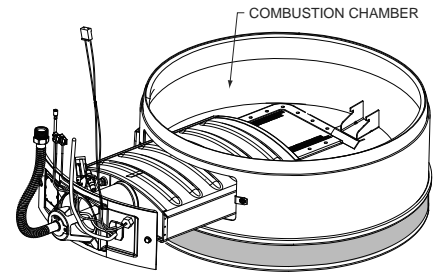

Figure 52 - Combustion chamber
- 2 Use a vacuum cleaner/shop vac to remove all loose debris in the combustion chamber (Figure 52). Use compressed air to clear any dust or debris that may have accumulated in the flame-arrestor.